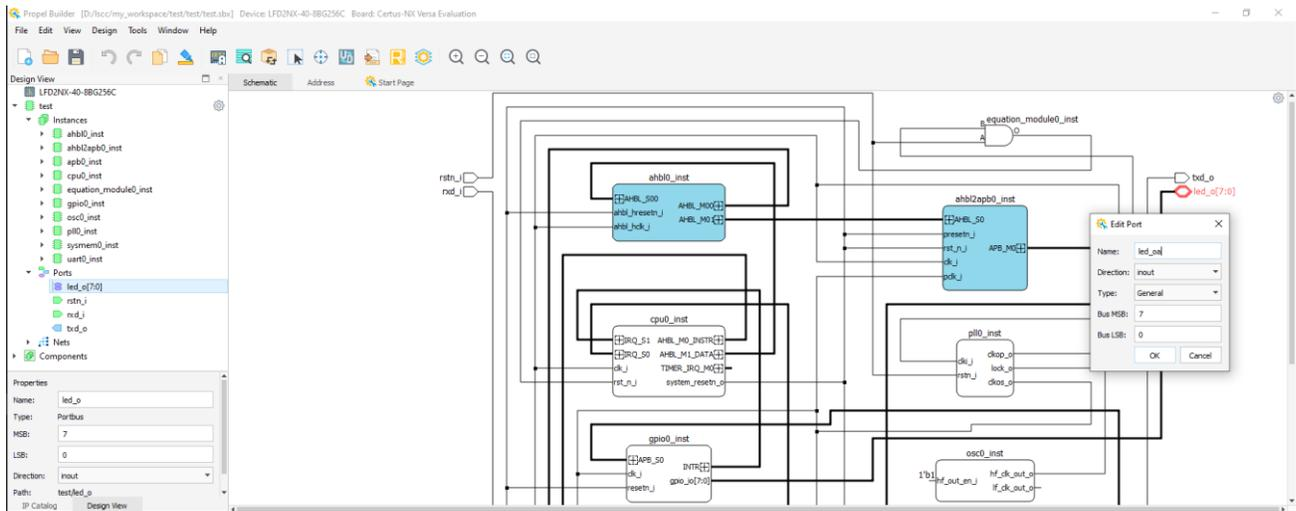

Figure 2.67. Port Edit Dialog
h. (Optional) Double click on the Port/ Portbus in schematic view, will open the port edit dialog (Figure 2.67).